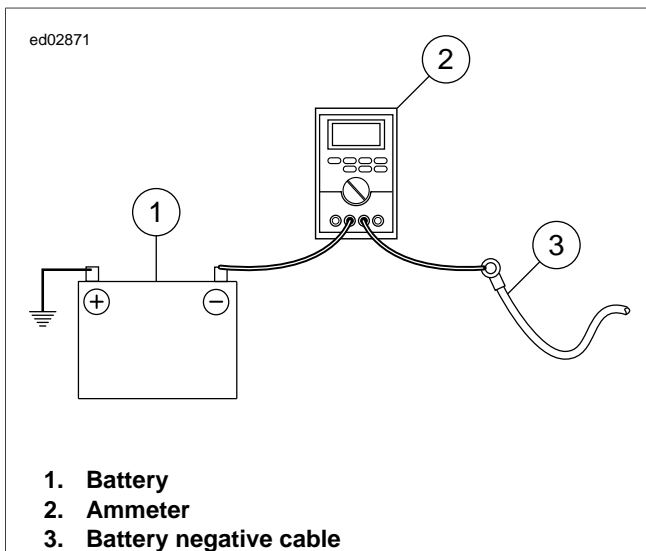

Figure 1-14. Milliampere Draw Test (Ignition turned to OFF)
1. See Figure 1-14. Connect ammeter between negative battery terminal and battery. With this arrangement, you will also pick up any regulator drain.